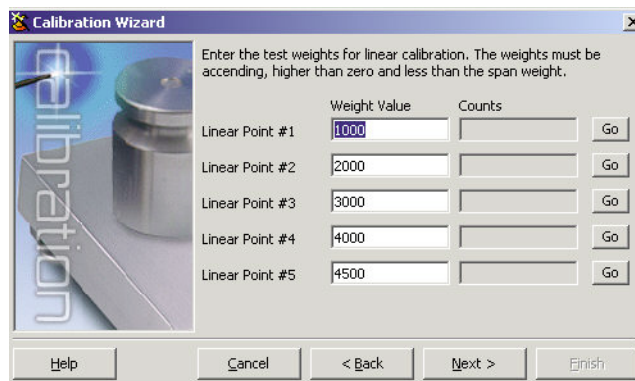

Figure 4-9. iRev 4 Linear Calibration Display
7. If performing a multi-point linear calibration, up to five other calibration weight values can be entered on the display shown in Figure 4-9. The weights must be in ascending order and must not include zero or the span weight. Enter the weight values and click the *Go* button to calibrate each point.